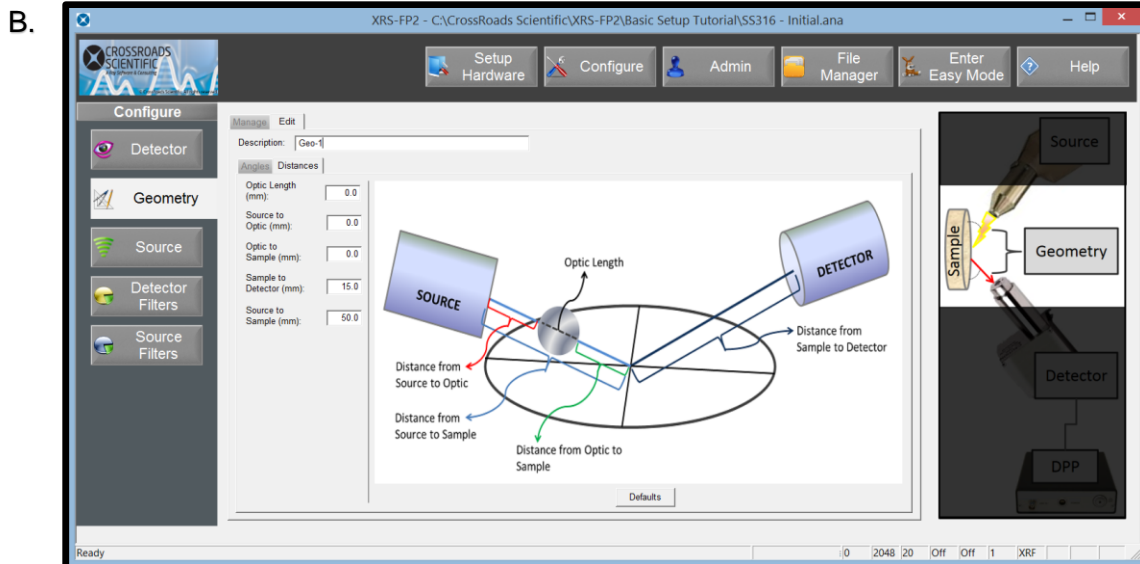

Figure 7. Setup Geometry Dialog. Check that the angle (A) and distance (B) parameters are as shown here, unless HW is being used with this tutorial.
- Now, still in the configure workflow, select the **Geometry** button and go to the “Edit” tab. This is where all the angle (Fig. 7A) and distance (Fig. 7B) parameters are set. If using HW with this tutorial, change the parameters so that they correspond to the particular geometry of the XRF system in use. Otherwise, make sure all parameters are identical to those shown below in Figure 7. Note that the most important parameters involved in the geometry setup are the incidence angle, take-off angle, the tube-to-sample distance and the sample-to-detector distance.